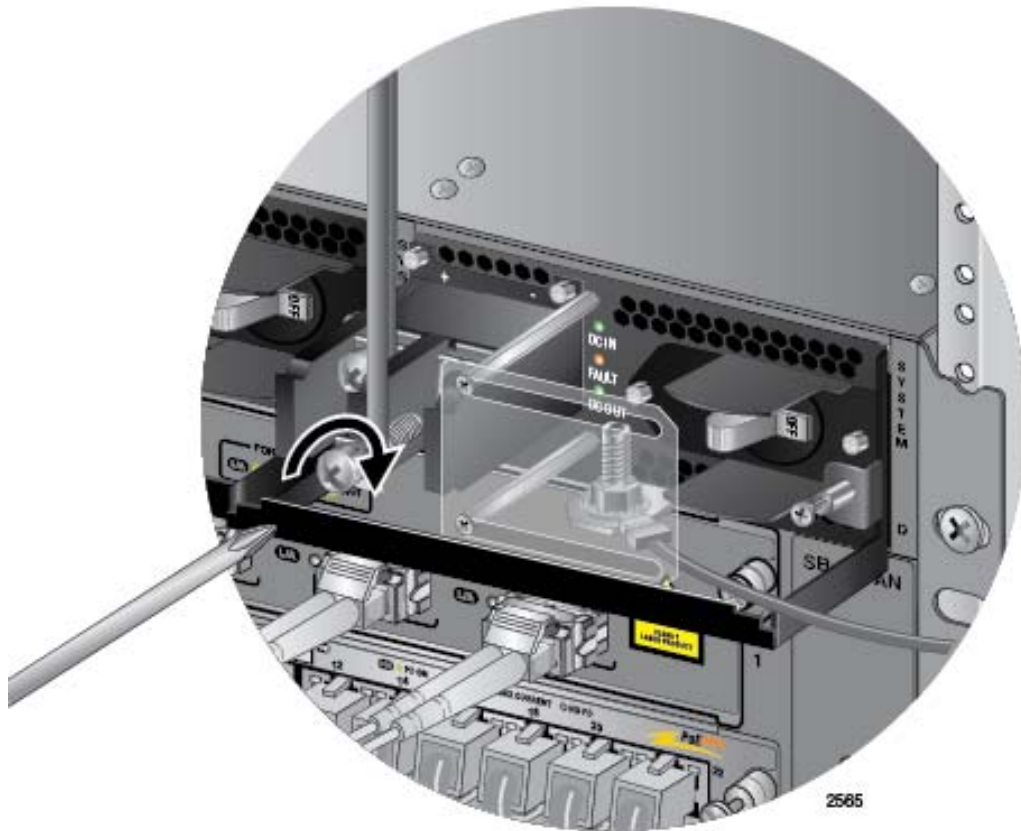

Figure 143. Connecting the Negative Lead Wire
6. Wrap the negative lead wire clockwise around the remaining terminal screw and secure the screw and wire to the negative terminal connection on the terminal block with a #3 Phillips-head screwdriver, as shown in Figure 143 on page 204. The negative terminal is on the right.